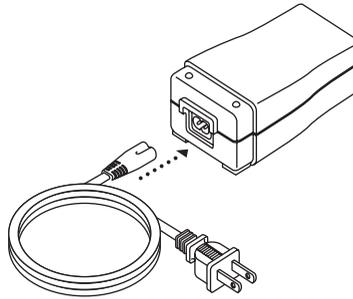

FIGURE 3–6 CONNECTING THE POWER CORD TO THE POWER SUPPLY
1. Plug the socket end of the AC power cord into the power supply, as shown in Figure 3–6.
3. Plug the power supply cord's connector into the power inlet on the back of the device, as shown in Figure 3–7.